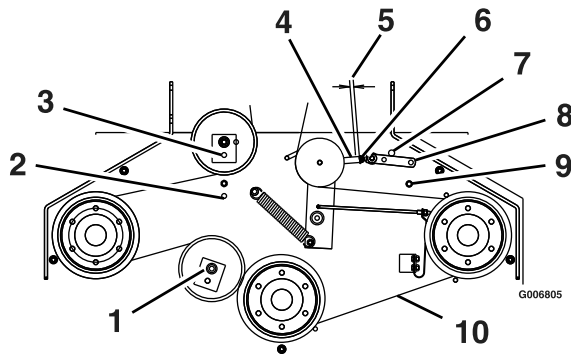

Figure 13
2. Check the adjustment of the lower blade drive linkage located between the bellcrank on the engine deck and assist arm on the mower deck. Lengthen or shorten the linkage. When properly adjusted, there should be 1/16 inch to 1/8 inch (2–3 mm) of clearance between bell-crank and transmission output shaft when belt is engaged. Make sure the assist arm is against the rear assist arm stop on the deck (see Figure 13). Push the lever down to the disengaged position. The assist arm should contact the front assist arm stop on the deck. If it does not contact, readjust so that the bellcrank is closer to the transmission output shaft.
3. Belt must be tight enough to not slip during heavy loads while cutting grass. Over-tensioning will reduce belt and spindle bearing life. To adjust belt tension, loosen the 5/16 inch whizlock nut on turnbuckle and rotate the turnbuckle; rotate turnbuckle toward rear of mower to tighten, and toward front of mower to loosen belt tension (see Figure 13). Leave a minimum of 5/16 inch (.79 cm) of the eyebolt threads engaged on both ends of the turnbuckle.
4. Proper belt tension will require about 10 lb (4.5 kg) side pull on belt, halfway between pulleys (see Figure 13, item 10—Point A) to deflect belt 1/2 inch (12 mm).